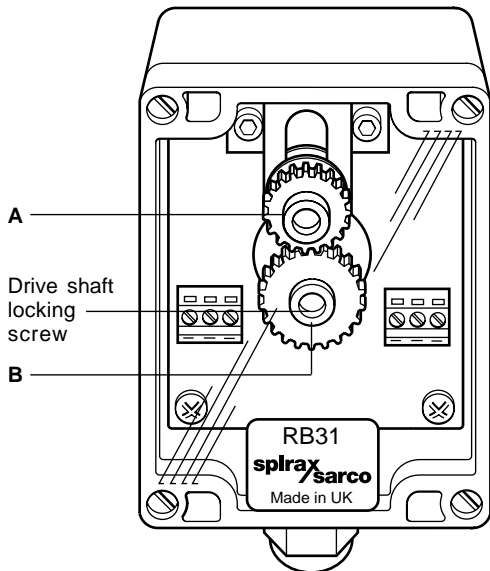

Fig. 8
- Lock drive shaft locking screw and ensure rotation of **B** is achieved when actuator rotates (Fig. 8).